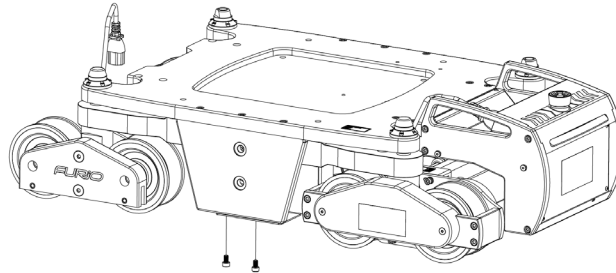

Figure 17 - Two BPS Bracket Screws Secured to the Side Plate
5. Secure the BPS bracket to the side cover plate on one side of the dolly using a 4 mm hexagonal wrench and two of the M6 screws provided in the BPS Upgrade Kit. Refer to **Figure 17**.